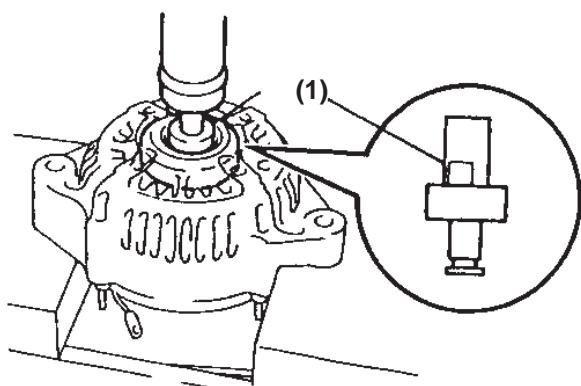

Figure 11-28
3. Press out the old front bearing using the special tool (**Figure 11-28, (1)**) and a press.